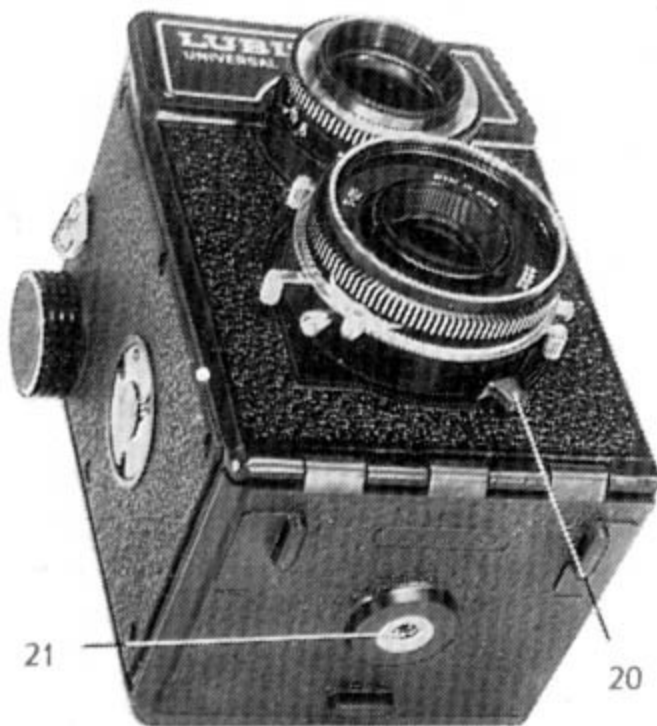
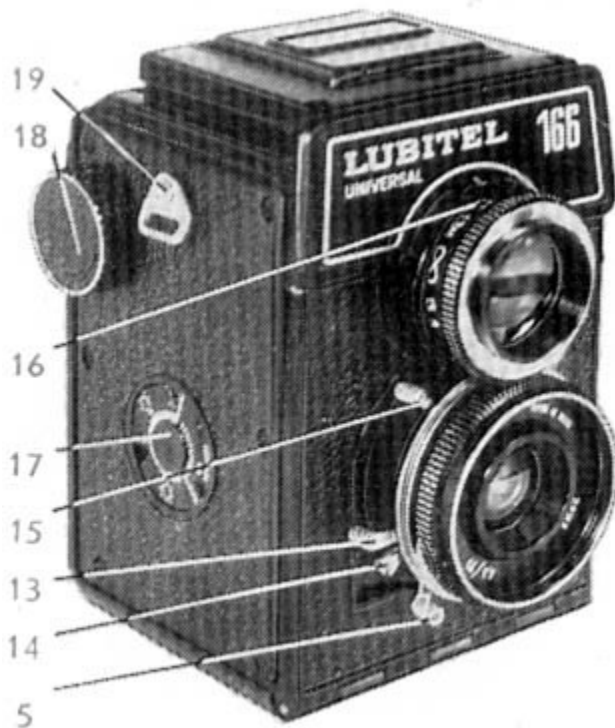

Fig. 4
Fig. 3
Having turned the window cover plate head 30 to the right or to the left rotate the film rewinding knob (18) [Fig.3] until first the signal marks on protective paper and then 1 appear in the window. Close the cover plate.
Before taking pictures take the cover off the lenses and set the required exposure times and diaphragm. Exposure is set on exposure scale by rotating exposure adjusting ring dog (5) [Fig.3]. The required diaphragm value is set by moving the lever (20) [Fig.4] with index along the scale.
With the cocking lever (15) [Fig.3] cock the shutter and release it smoothly.